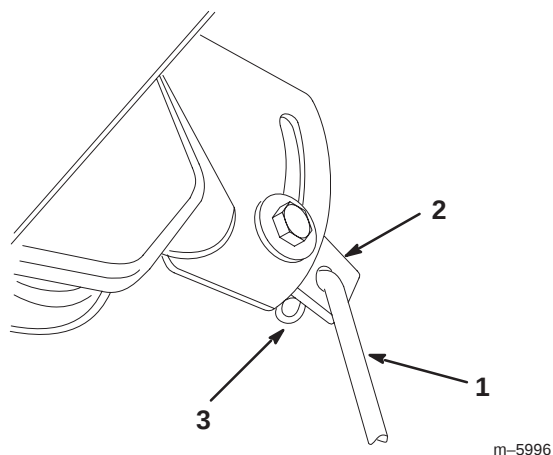

Figure 11
2. Install speed control rod to right side of speed control lever (under control panel) with a hairpin cotter (Fig. 11).